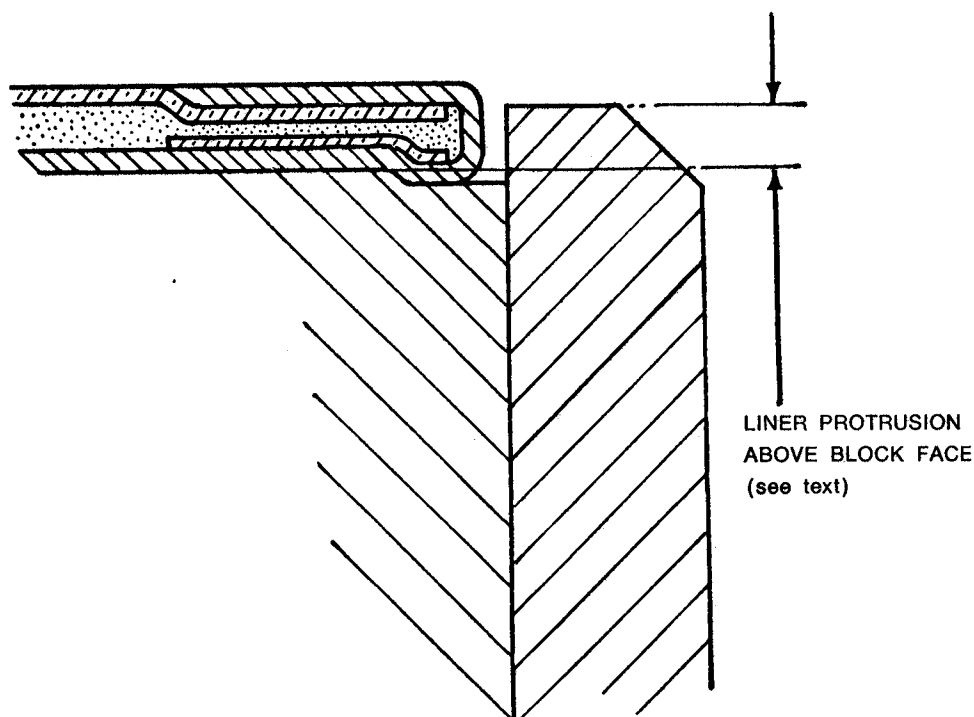

Fig. G.3.
4. Lubricate the outside diameter of the liners with clean oil and press them in. When inserting new liners, the load should be released several times during the first inch, so as to allow the liner to centralise itself in the parent bore. The liner should be pressed in until  $0.030/0.035$  in ( $0.76/0.89$  mm) of the liner is protruding above the cylinder block face (Fig. G.3). Shim washers or a solid stop washer,  $0.030/0.035$  in ( $0.76/0.89$  mm) thick should be used to give the correct protrusion.